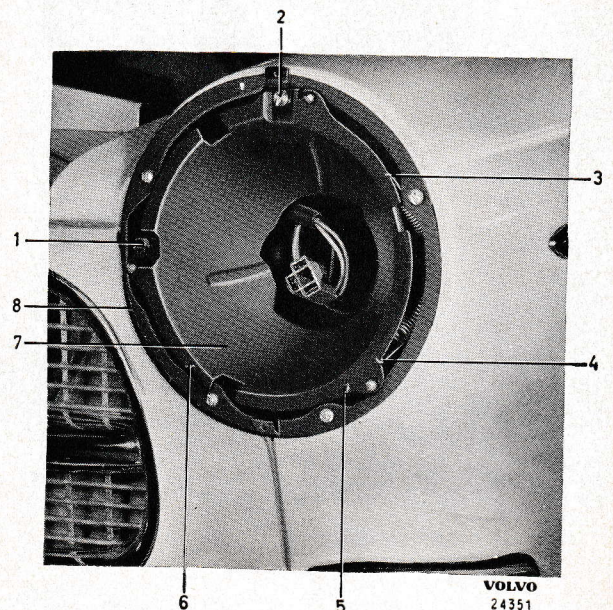

Fig. 68. Headlight bowl.
4. Slacken the screws (1 and 2, Fig. 68) for the headlight adjustment 8—10 turns. Unhook the springs (3—6) from the bowl (7) and lift out the bowl from the casing (8).
Adjusting is done by turning the screws 1 and 2, Fig. 68.